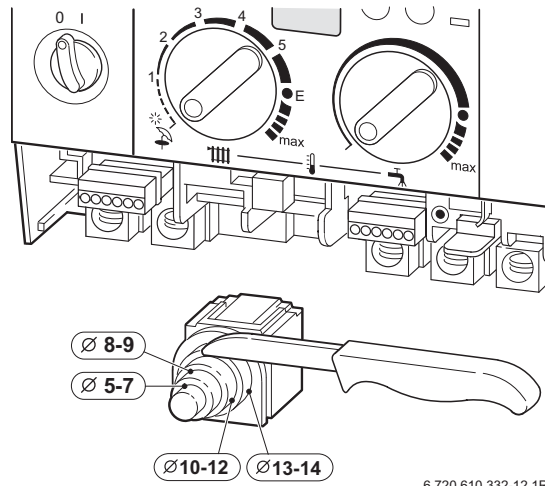

Fig. 25
- ▶ To maintain the splash-proof (IP) design: cut the cable grommet hole size to match the diameter of the cable, see fig. 25.